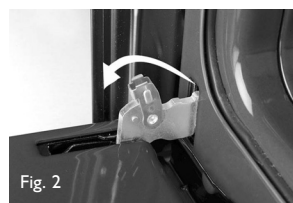

Fig. 2
2. Lift the two catches and push them forward as far as they can go (see fig. 2).